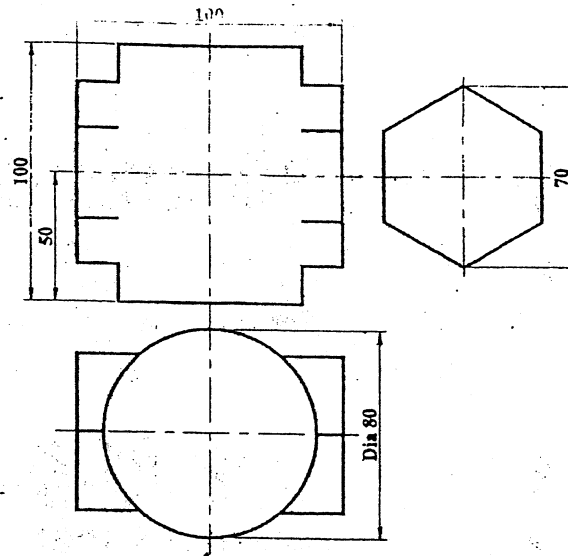

Figure P.5
5. Draw the lines of intersection of the surfaces of geometrical solids shown in Figure P.5.